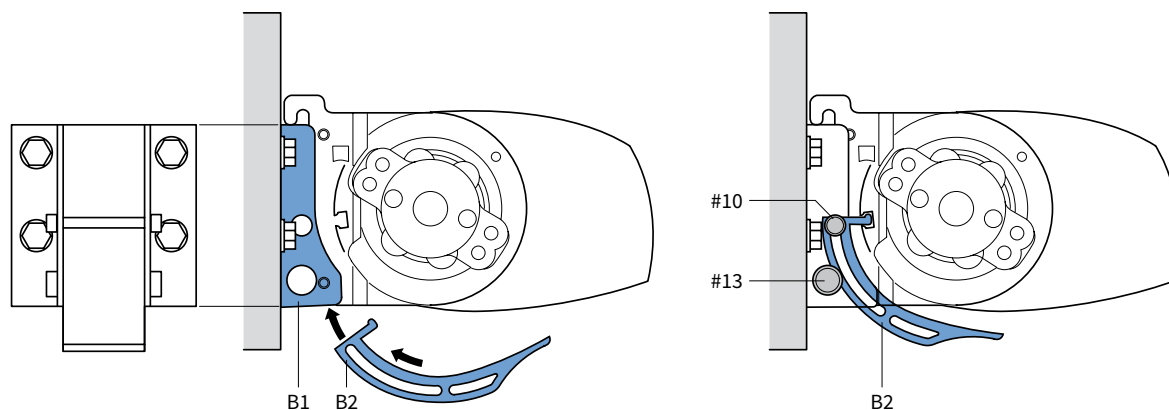

fig. 2.3 Detail wall support B
3. Slide the adjustable part (B2) of the center support to its place in the mounting plate (B1). Make sure that de adjustable part falls in the back of the slot of the awning. View figure 2.3.